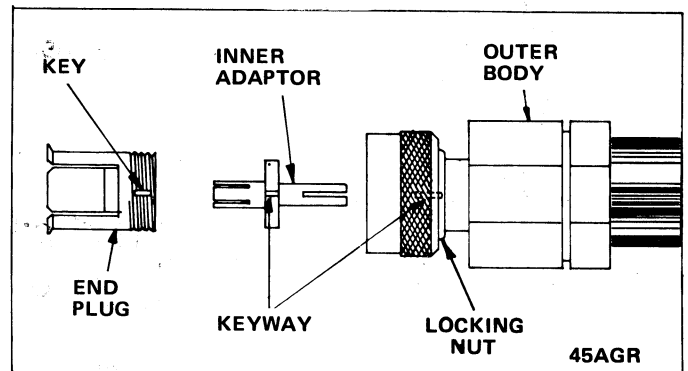

FIGURE 5
STEP 5. 45AGR ONLY. Gently place inner adaptor into base of GR connector on outer body, and engage it with inner connector. Refer to Figure 5. Use right turning motion to aid engagement. Align keyway in insulator with keyway in GR connector, then push adaptor toward outer body. Align plug on end plug with keyways, then slide plug into position. Tighten plug in place with locking nut.